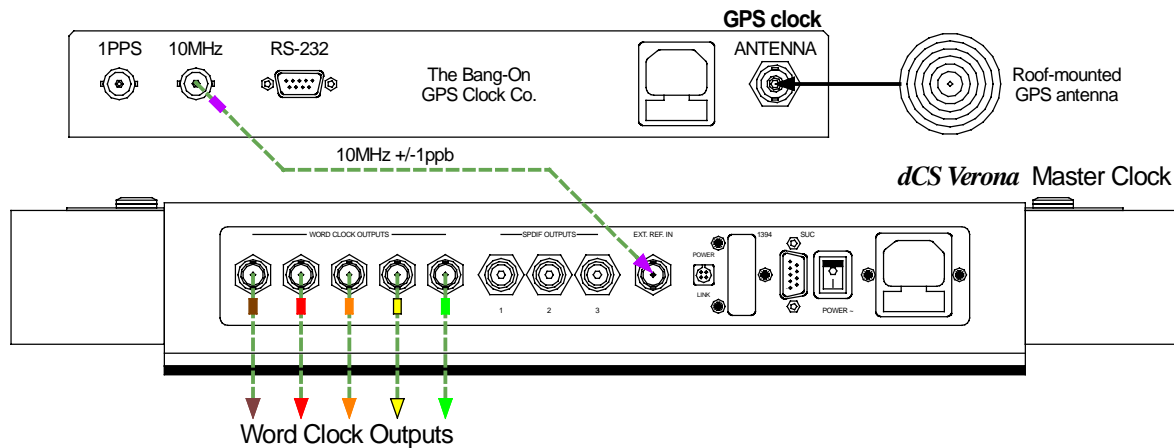

Figure 3 – Slaving the Verona to a GPS clock
- do this:** Connect up as shown in **Figure 3**.